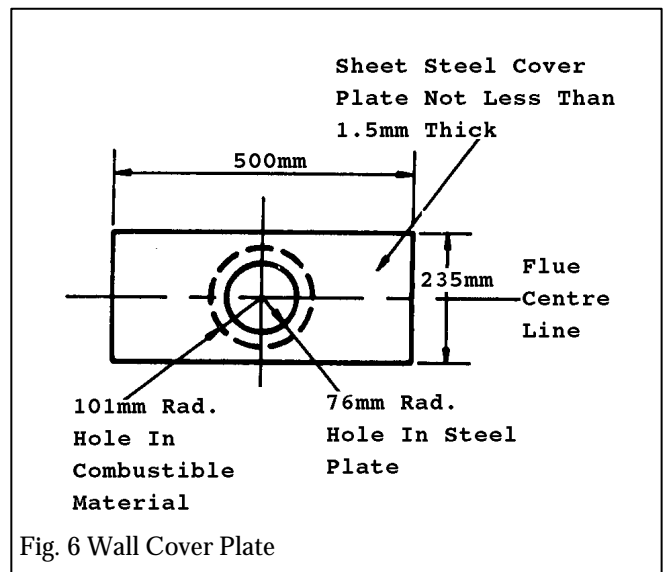

Fig. 6 Wall Cover Plate
**5.12.1** Mark out and cut a hole 202mm diameter through the combustible part of the wall. A 152mm diameter hole can be cut through non-combustible parts of the wall (see figure 6).
**5.12.2** Cover the hole with a square sheet steel plate 500mm x 235mm with a 152mm diameter hole cut out of the centre (see figure 6). The steel should be not less than 1.5mm thick. Fix with suitable screws and plugs.